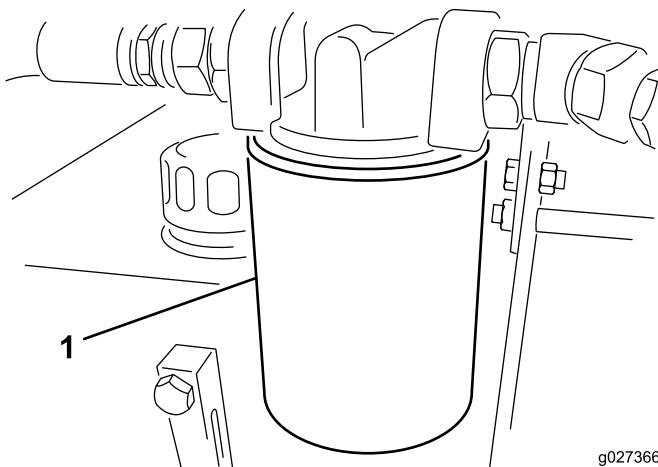

Figure 12
3. Place a drain pan under the filter and remove the filter (Figure 12).